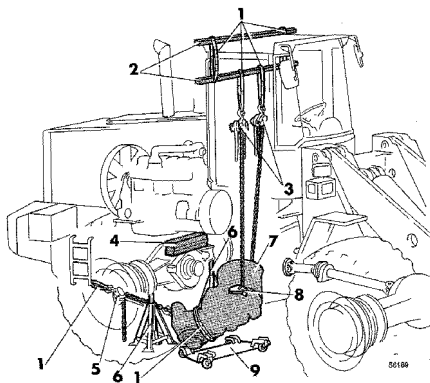

Figure 4
17. Connect the lifting device according to Fig. **Figure 4**.